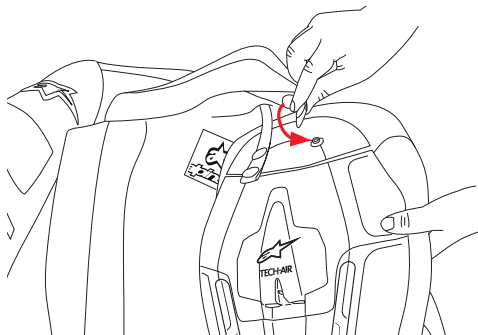

Figure 6
1. Clip the airbag vest onto the smaller central rear hook (1).
2. Attach the two studded connectors to the back protector of the airbag vest (2). In the first case mount the protector on the upper two studs (see Fig 6).
- Install the airbag vest on the lower two studs (Step 2 of the airbag vest installation – see Figure 6).